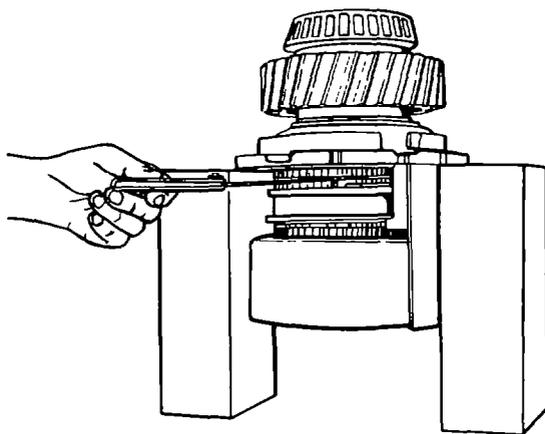

Figure 29 Measuring Play at Synchro Hub
- (9) Install the planetary gears individually into the carrier: do not displace the tab-shims or friction washers during this procedure; align the gear so that the gear shaft can be installed.
- (10) Install the gear shaft through the flange and gear; ensure that the recess in the shaft is aligned with the grub-screw hole in the carrier flange; install and tighten the grub screw to lock the shaft in position; lock-up the grub-screw using a centre-punch or chisel; repeat these procedures to complete the installation of the remaining planetary gears.
- (11) Fit the ball-bearing (15) into the annulus (14); install the circlip (16): fit the planetary gear carrier (17) to the annulus; ensure that the teeth on the annulus and planetary gears are correctly meshed.
- (12) Fit the annulus dome (13) over the annulus; install the snap-ring (19) to secure the dome in position; fit the synchro-hub (12) to the assembly; press the synchro-cone onto the assembly until the circlip groove is clear; fit the circlip to secure the hub in position.
- (13) Fit the spacer tube (11) and compensating shim (9) to the assembly; ensure that the oil drilling in the spacer tube faces inwards when fitting the tube.
- (14) Install the ball bearing in the synchroniser (7); install the circlip to secure the ball bearing in position.
- (15) Fit the synchroniser and the oil deflector plate to the assembly; fit the transfer gear and bearing to the assembly; install and tighten the centre bolt to 75 Nm.
- (16) Support the assembly on two blocks (see Fig 29); use a feeler gauge to measure the play of the synchro-hub (refer to Table 17).